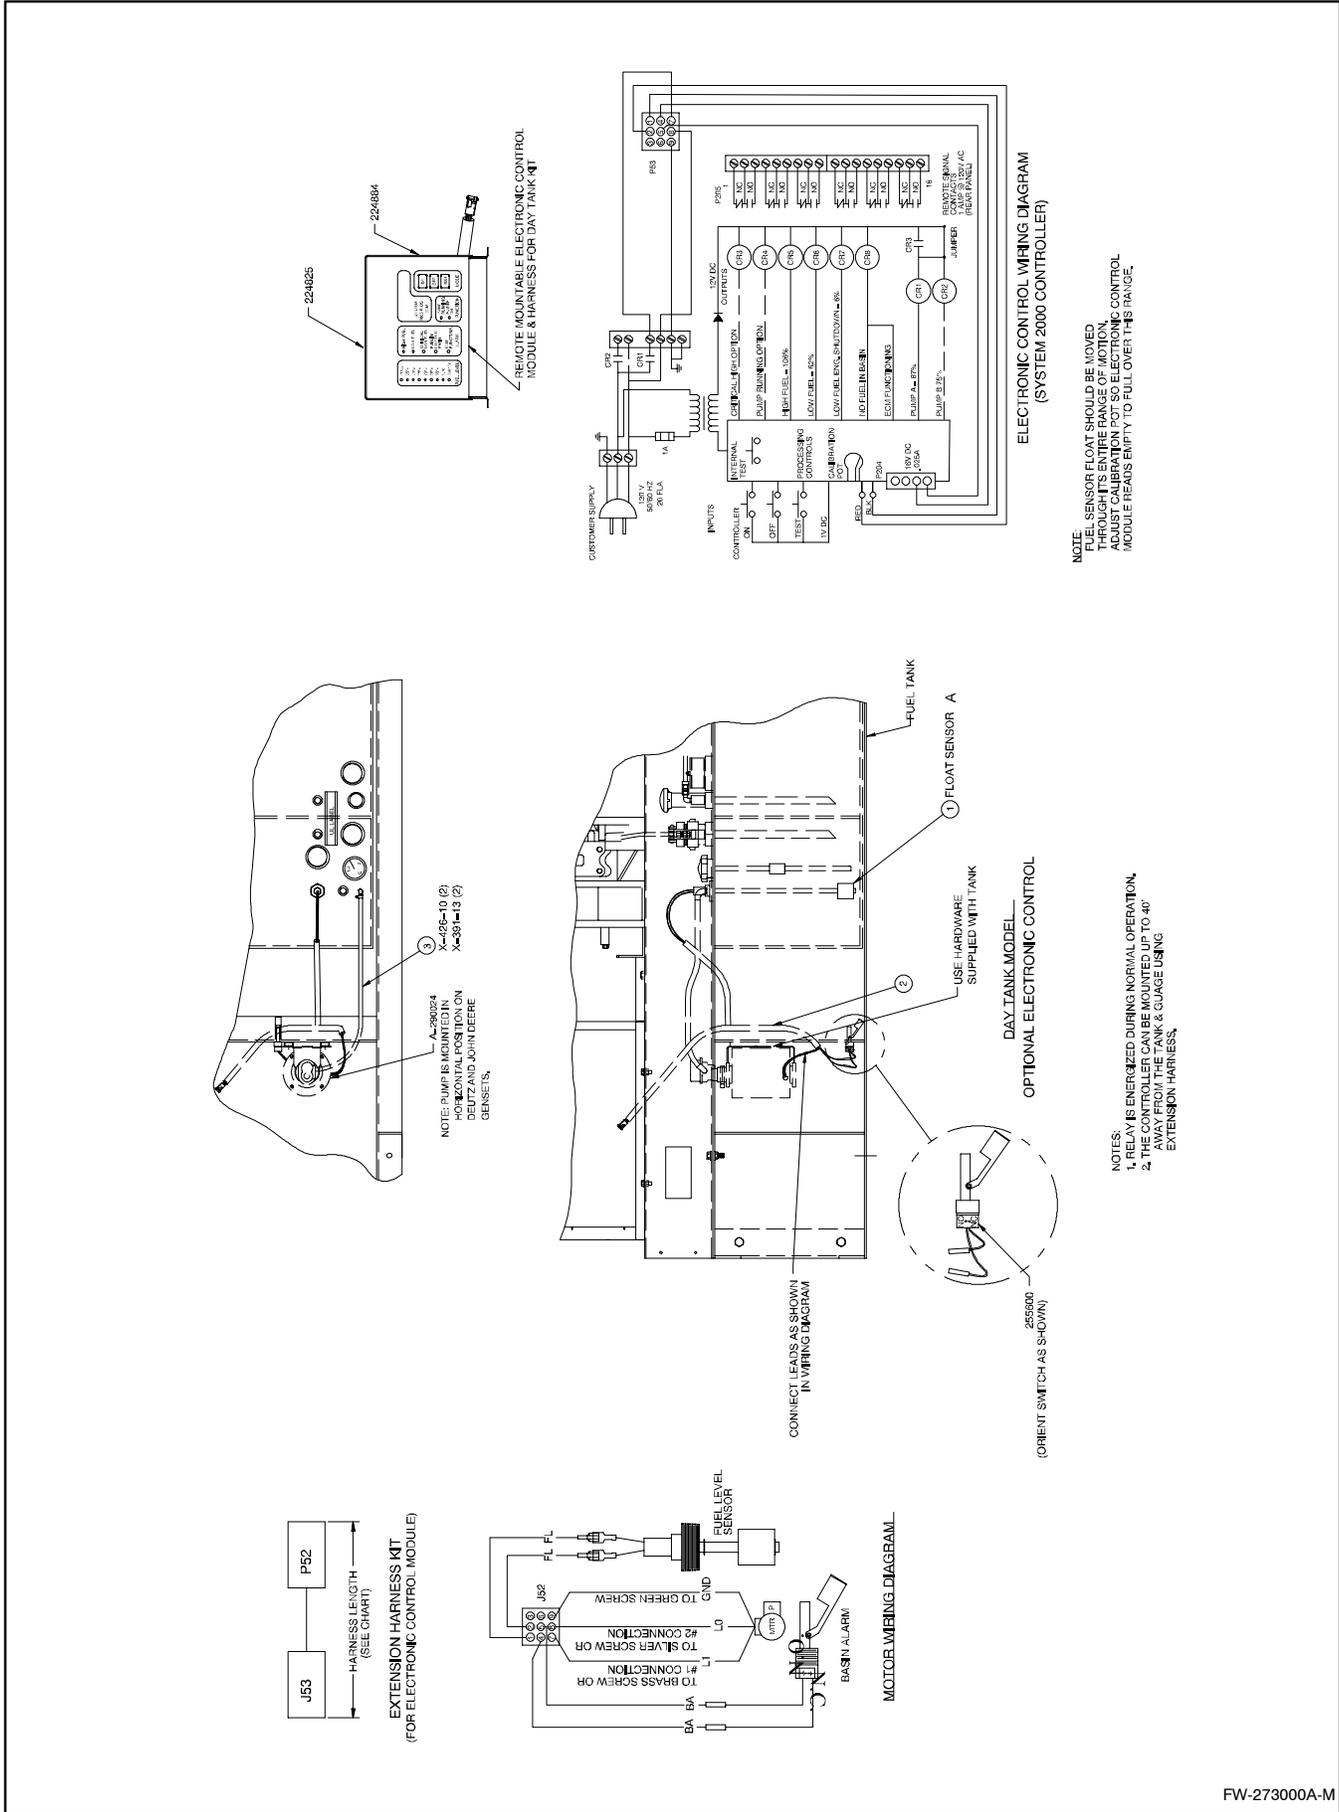

Figure 6 Day Tank Option, Electronic Control Module
- a. Remove the 1/2 in. NPT pipe plug for leak alarm (224863) installation. The pipe plug is not reused. Apply pipe sealant to the threads of the leak alarm and install in the subbase fuel tank. See Figure 6 for positioning and location.
- g. Connect the float level sensor, leak alarm, and electric motor to the appropriate wiring harness (224880) leads. See Figure 6, Motor Wiring Diagram.
- h. Connect ECM wiring harness (224884) to the required ECM connections. See Figure 6.
- i. Route the wiring harness to the control module. Connect the mating end of the extension harness to the ECM wiring harness and the day tank harness. See Figure 6.